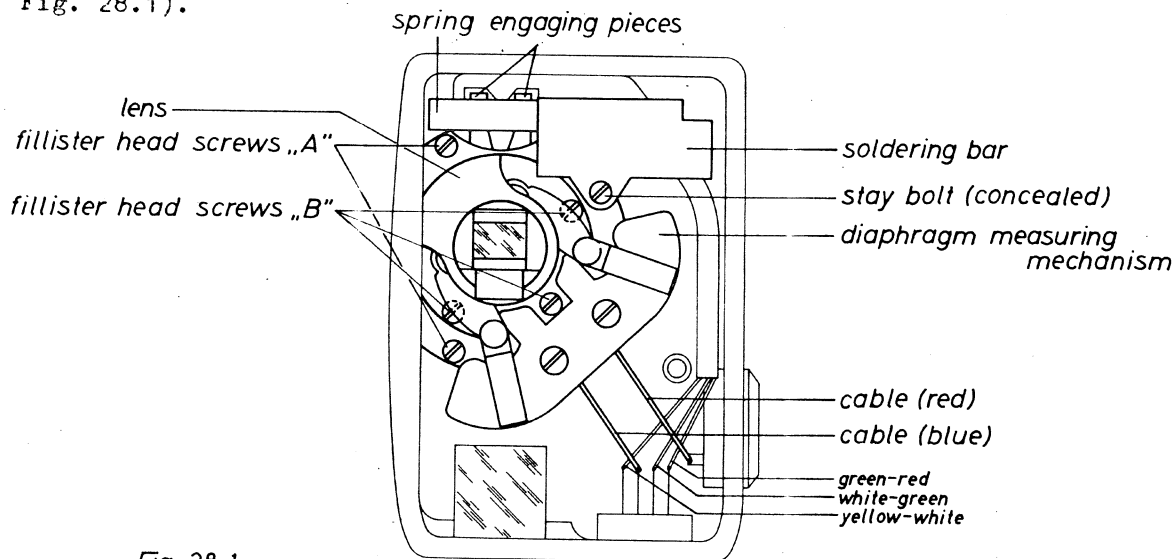
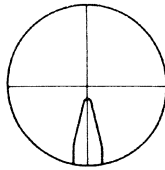

Fig. 28.1
Fig. 31.1
Using the soldering iron, unsolder the two cables (blue and red) of the diaphragm measuring mechanism at the socket and at the battery housing (see Fig. 28.1).
Exchanging the Diaphragm Measuring Mechanism of the Dygon f/2 15 mm Lens Continuation of sheet 24 Installing the Lens and the Diaphragm Measuring Mechanism When a new diaphragm measuring mechanism is being used, the blades must be able to move freely in the lens. If necessary, one or more washers 08-27.10-121 can for alignment purposes be inserted (see Spare Parts List, sheet 3). Screw the measuring mechanism on to the lens. Insert the two engaging pieces with the spring into the guide slot of the lens and place the latter into the front plate, together with the measuring mechanism, and screw in place. Screw the soldering bar on and solder on the two cables of the diaphragm measuring mechanism (see fig. 28.1). Align the front plate (see sheet 14). Align the viewfinder exit with the lens (see sheet 28.1). Test the Dygon f/2 15 mm lens (see sheet 12). The space present between the basic lens and the front plate forward surface must be filled out with wax, grey V.
View through telescope and ascertain that the axis of the alignment tongue corresponds to the upright line of the cross hairs (see Fig. 31.1).
If this is not the case, lens must be aligned. Detach telescope and alignment plate. Using screwdriver 2.8 ϕ unscrew one screw on the soldering bar, withdraw soldering bar slightly from front plate (do not touch the spools of the diaphragm measuring mechanism!) so that the stay bolt situated underneath can be slackened by about $\frac{1}{4}$ -turn with the aid of screwdriver 4.5 ϕ (see Fig. 28.1). Using screwdriver 2.8 ϕ loosen two fillister head screws (A) on the lens by about $\frac{1}{4}$ -turn (see Fig. 28.1). Adjust the position of the lens accordingly (see Fig. 31.1).